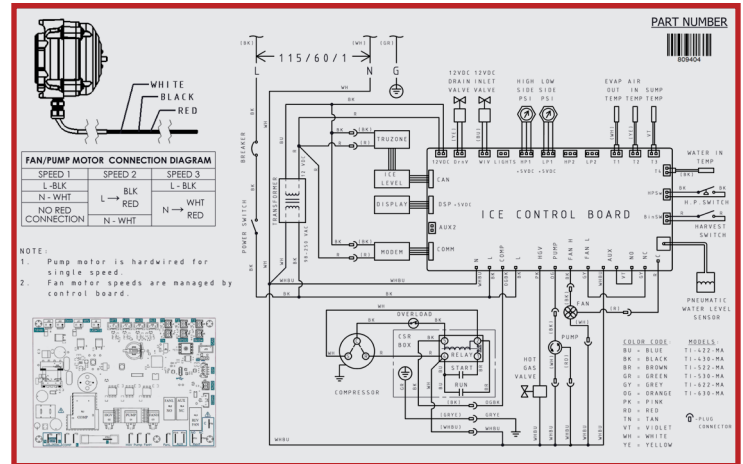

Fig. 1. Wiring diagram located under the top panel.
- See wiring diagram beneath the top panel as shown in fig. 1. To access, see "Panel Removal" (pg. 31).